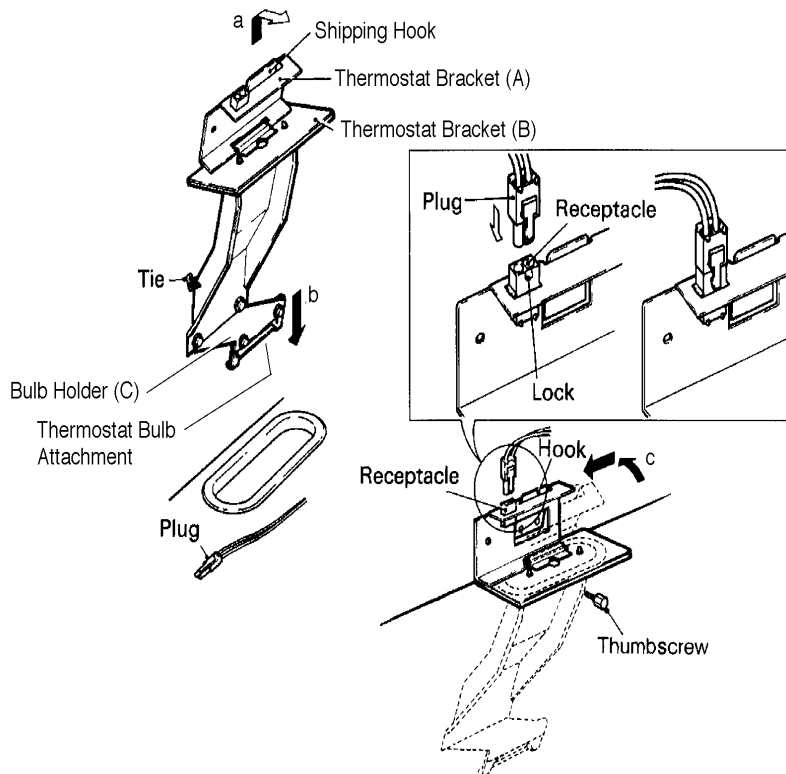

Fig. 3a
- 5) Install the Bin Control Thermostat as follows. See Figures 3a, b and c.
- (a) Remove the Tie securing the Bulb Holder. Remove the Thermostat Bracket (A) from the Shipping Hook by lifting up the Bracket (A) and shifting it to the right.
- (c) Slide the Thermostat Bracket (A) toward you with the bottom surface contacting the Thermostat Bracket (B).
- (d) Hook the Thermostat Bracket (A).